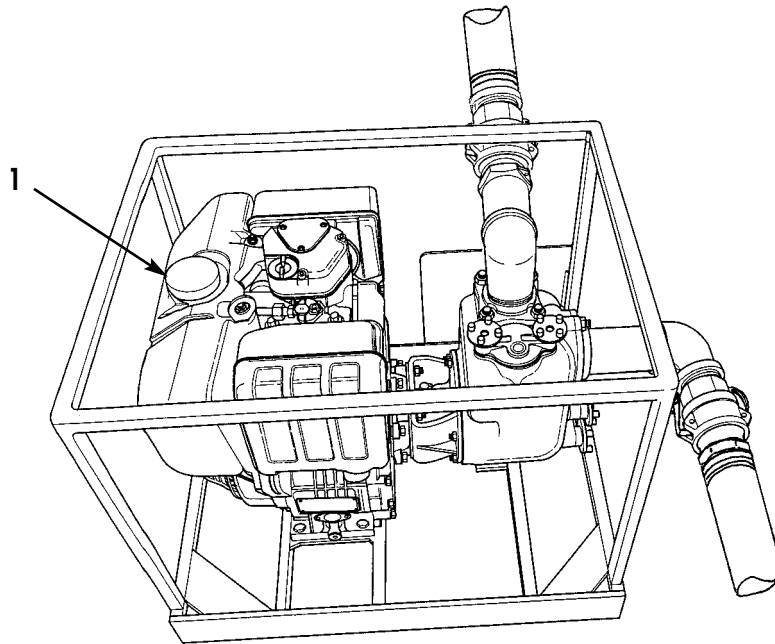

Figure 5. Pump Unit Engine Shutdown.
9. Shut down pump unit engine (Figure 5, Item 1) by turning start/stop lever to the right. Refer to TM 5-4320-368-14&P.